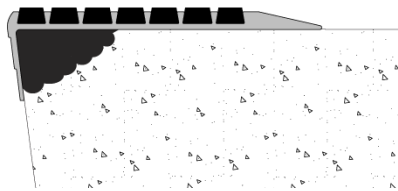

Figure 1
- In areas where concrete is dished or spalling, apply a quick-setting, self-leveling compound. If wood tread is rotted, replace it (*figures 1 and 2*).
6. Place back into position, aligning nose flush to end of tread (*figures 1 and 2*).